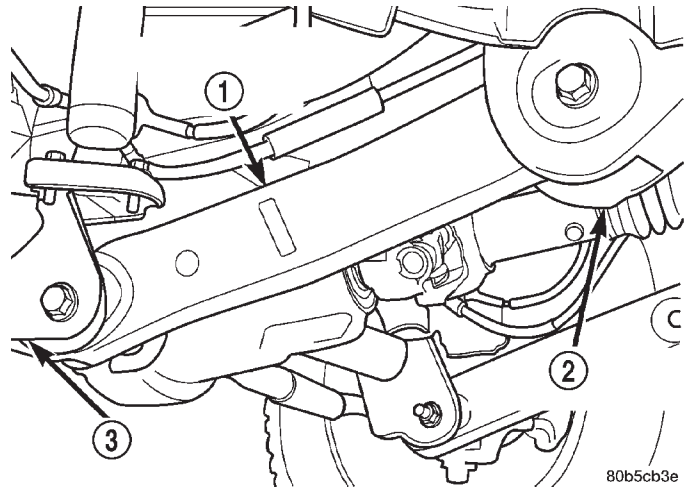

Fig. 7 Lower Suspension Arm
- (1) Raise the vehicle and support the front axle.
- (2) Remove the lower suspension arm nut and bolt from the axle bracket (Fig. 7).
- (3) Remove the nut and bolt from the frame rail bracket and remove the lower suspension arm (Fig. 7).